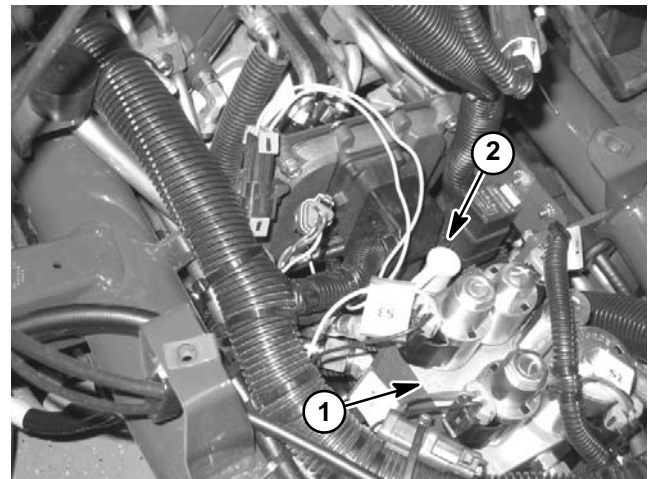

Figure 23
5. Install 1000 PSI (70 bar) pressure gauge with hydraulic hose attached to lift control manifold test port (G) (Fig. 23).
**NOTE:** The lower cutting units function is electrically timed and automatically turns off after approximately three (3) seconds.
**NOTE:** While performing this hydraulic test, if relief pressure cannot be determined within the LOWER function three (3) second timeframe, repeat this test procedure.